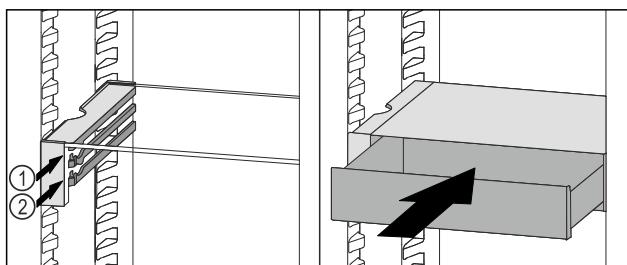

Fig. 128
- Place the VarioSafe drawer behind the stoppers on desired rib Fig. 128 (1) or Fig. 128 (2).